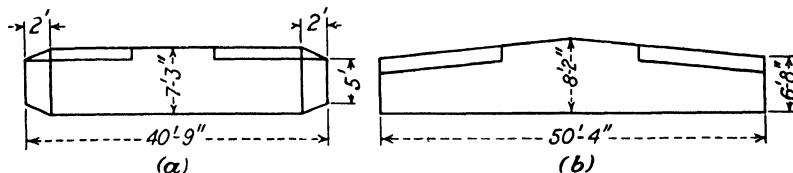

Fig. 155.
4. Calculate the area of the wings in Fig. 155.